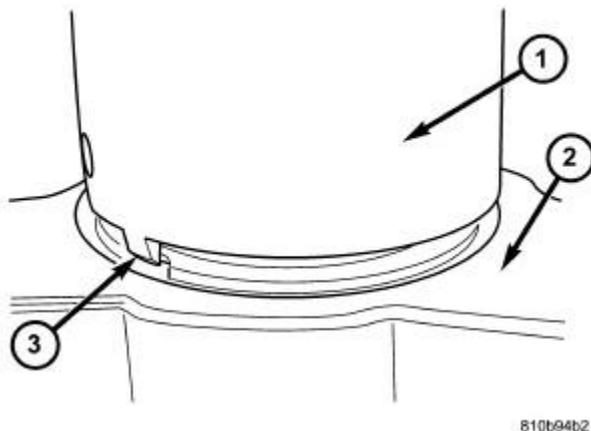

Fig. 104: Stake Output Shaft Nut
11. Press downward on the staking tool until the staking pin contacts the output shaft nut flange. Refer to **Fig. 104**.